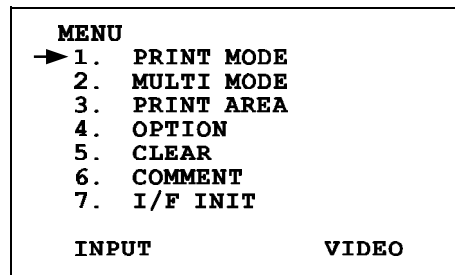
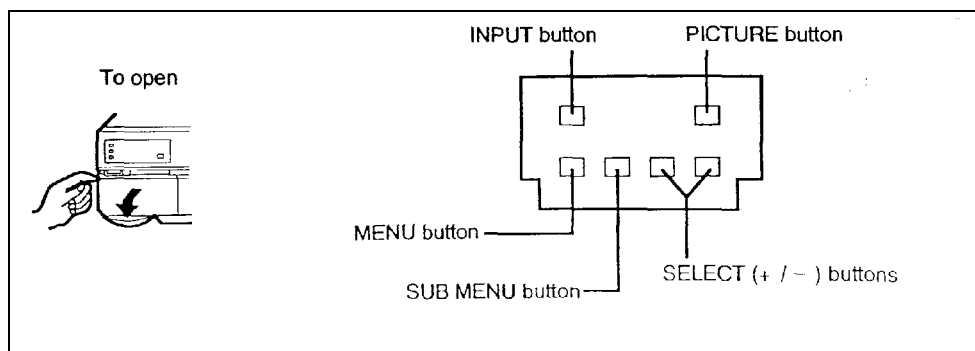

Figure 6-24. TX-2000 Main Menu
Figure 6-25. TX-2000 Front Panel Control Cover and Controls
6. Display the TX-2000 main menu (Figure 6-24) by pressing the MENU button inside the control cover (Figure 6-25) on the front of the TX-2000.
- b. Press the SELECT- or the SELECT+ button (Figure 6-25) until the desired setting appears.